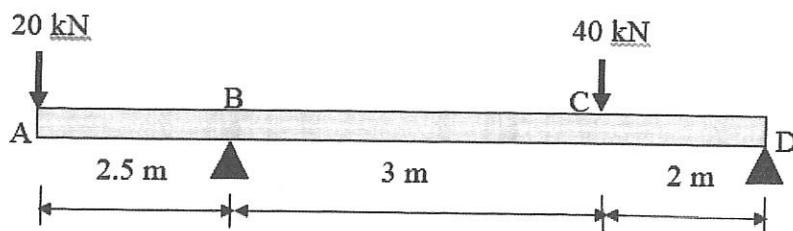

Figure 2 / Rajah 2
- (c) An overhang beam with 5.5 m length is subjected to a point load of 20kN and 40 kN as shown in Figure 2. Draw diagrams of the beam to show shear force and bending moment. Given reaction, By = 46kN and Dy = 14 kN.